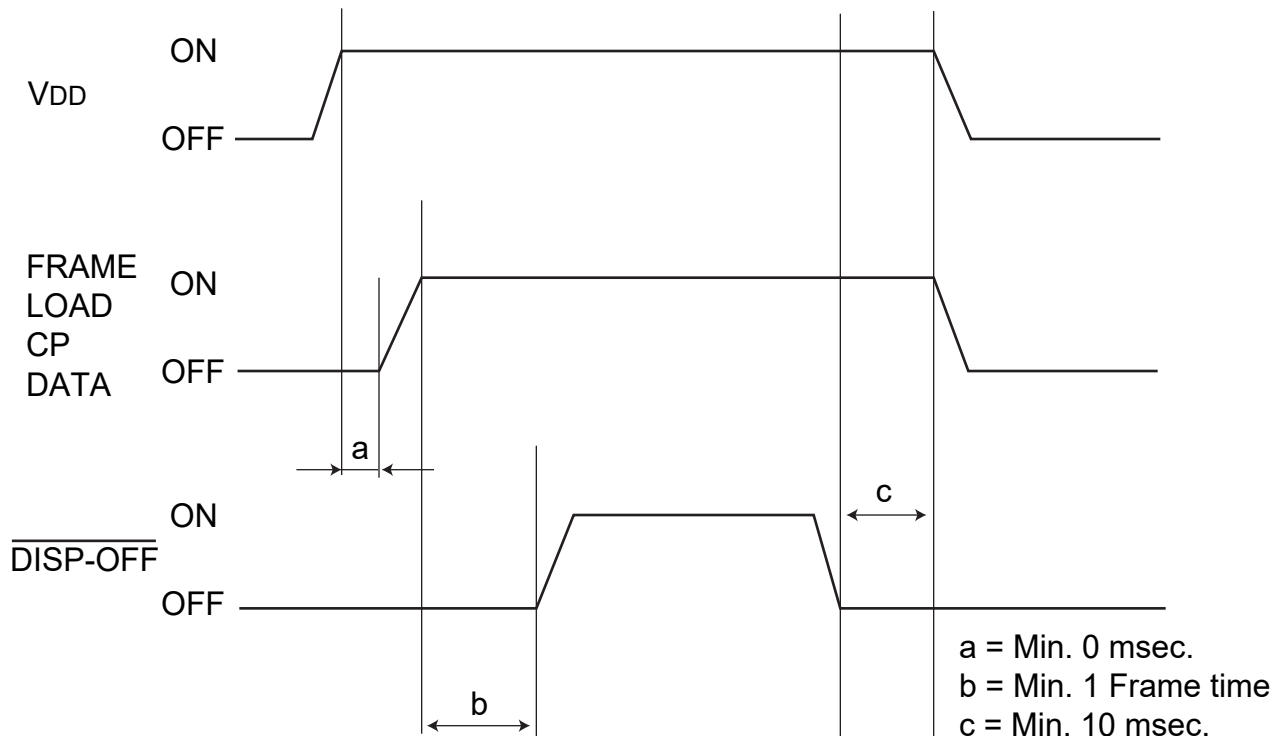

Fig 9-1
- (2) The response of the display is slow when the ambient temperature is below the lower limit, and the display becomes unusual when the ambient temperature is above the upper limit. in any case, it does not mean failure. It operates properly in the normal operating temperature range.
- (3) The contrast of the liquid crystal display varies with the viewing angle, ambient temperature, and drive voltage. Adjust the drive voltage for the best contrast by installing external variable switch.
- (4) If you move the module from a cold storage into the room as during test, moisture would condense on the module and it might fail.
- (5) To prevent IC latch-up and DC voltage on the LCD panel, power on by the following timing (Fig 9-1).